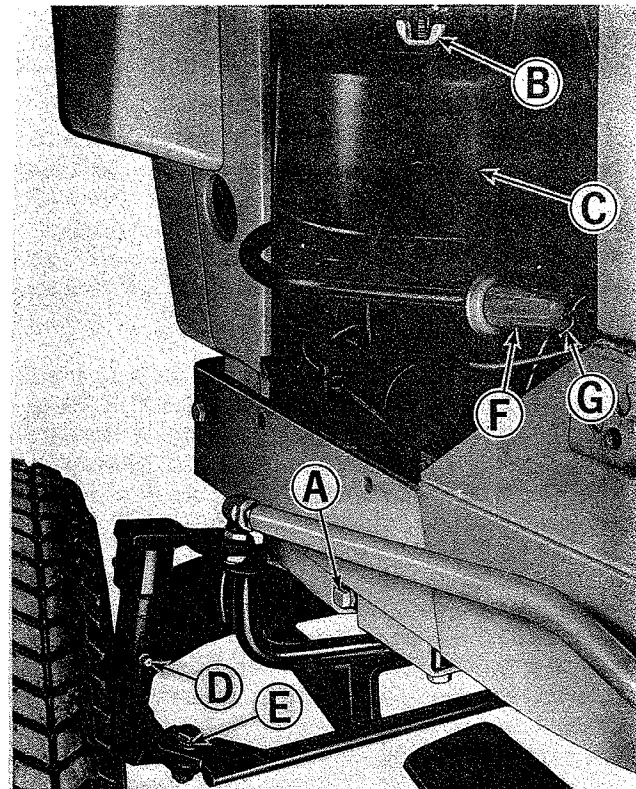

Figure 19. Left front of tractor.
2. See figure 19. Remove the drain plug (A) from the bot-
1. See figure 19. Remove the wing nut (B) and cover (C) from the air cleaner unit.
5. See figure 19. Replace the air cleaner cover (C) and fasten it securely with wing nut (B).
Left Spindle	Figure 19, Item D
Left Tie Rod End	Figure 19, Item E
1. See figure 19. Remove wing nut (B) and cover (C) from the air cleaner.
7. See figure 19. Replace cover (C) and wing nut (B) and tighten securely.
REPLACE FUEL FILTER: See figure 19. Every 100 hours or more often under dirty field conditions, the fuel filter (F) should be replaced. **CAUTION: DO NOT REMOVE THE FUEL FILTER WHEN THE ENGINE IS HOT, AS SPILLED GASOLINE MAY IGNITE. USE CARE WHEN REMOVING AND INSTALLING CLAMPS (G), NOT TO SPREAD THEM ANY MORE THAN NECESSARY AS THEY MAY TAKE A SET AND NOT HOLD THE HOSE TO THE FILTER PROPERLY.**